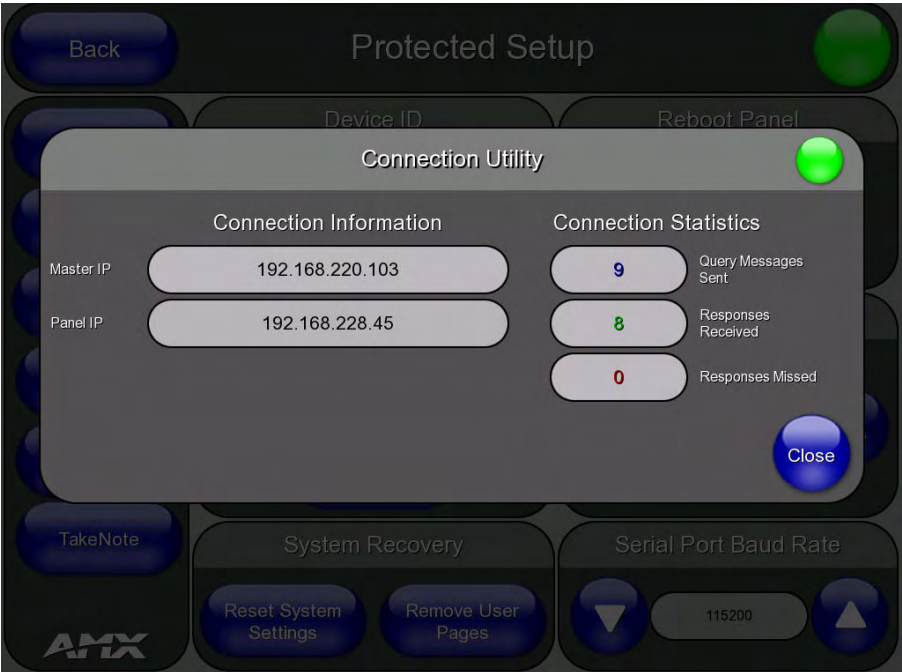

FIG. 79 Protected Setup (Tools) - Connection Utility Page
- **Connection Utility** - Press to access the *Connection Utility* page (FIG. 79 on page 84)
Select **Connection Utility** from the *Tools* slider (see FIG. 76) to access the *Connection Utility Page* (FIG. 79):